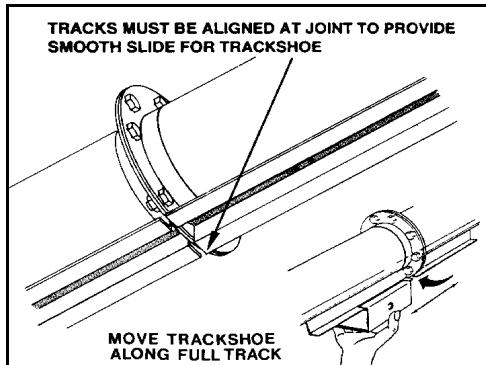

Figure 3.2 51' Lift Track Only
- 1. The 51' auger has a 2-piece lift track. Make sure the upper and lower tube track sections butt together to form a smooth joint for the roller track shoe to roll across. Adjust if necessary (Figure 3.2).